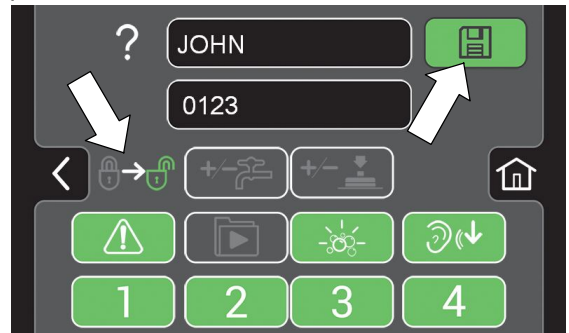

FIG. 145
6. Now select the controls that the new user should have access to use (Figure 145). Green represents unlocked controls and gray represents locked controls. Press the blinking save icon to save new profile.